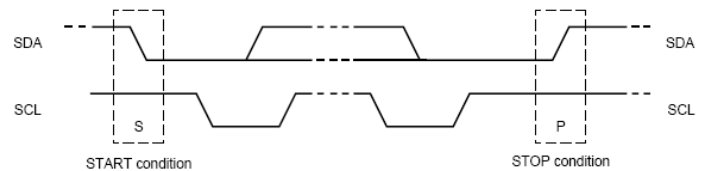

Fig 2
Both data and clock lines remain HIGH when the bus is not busy. A HIGH-to-LOW transition of the data line, while the clock is HIGH is defined as the START condition (S). A LOW-to-HIGH transition of the data line while the clock is HIGH is defined as the STOP condition P see Fig.2.